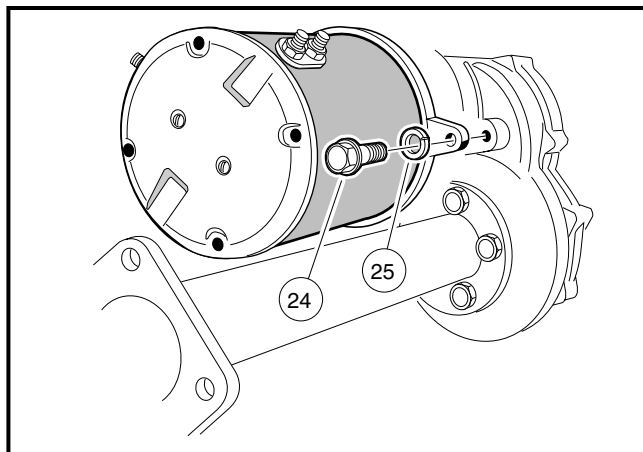

Figure 15-18 Motor Installation
- 4.4. Tighten the bolt (24) inserted through the tab to 155 in-lb (17.5 N·m) (**Figure 15-18, Page 15-13**).